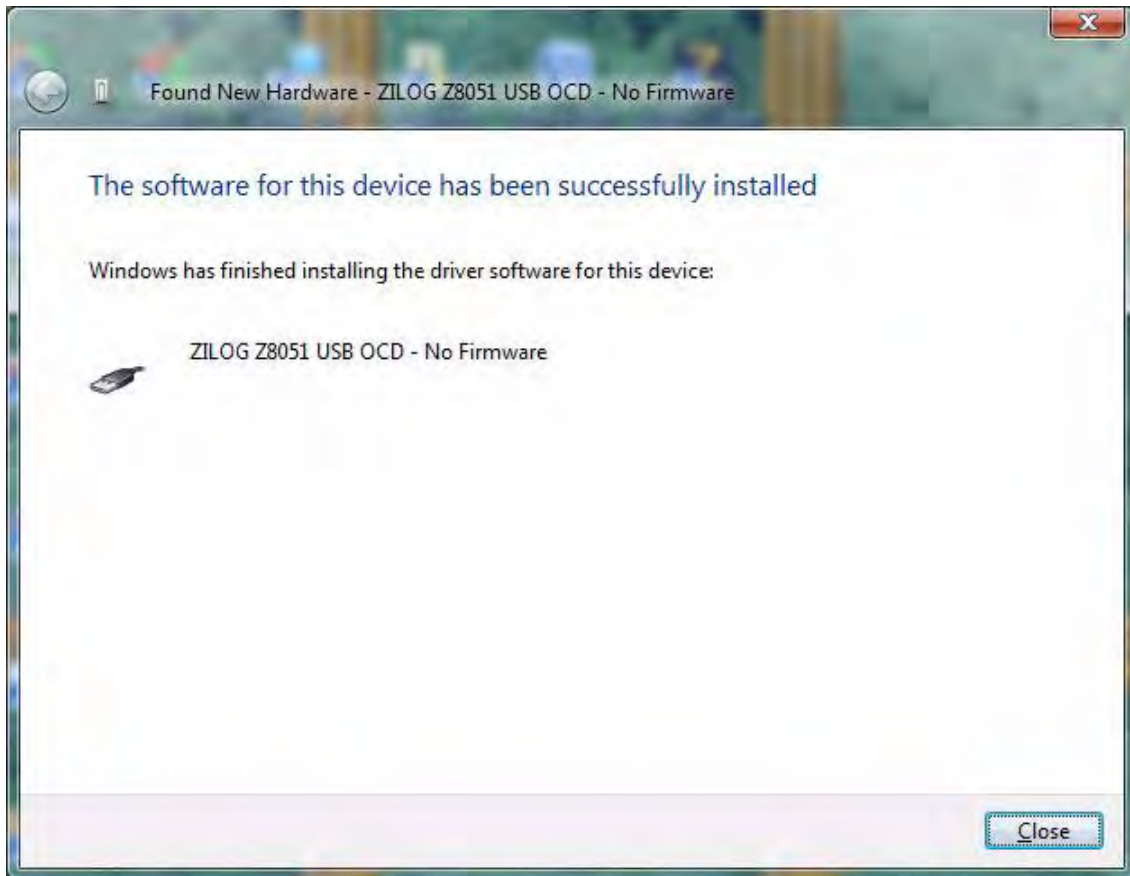

Figure 21. Successfully Installed Dialog, Windows Vista
7. When the installation is complete, the screen shown in Figure 21 will appear. Click **Close** to exit the OCD driver installation.